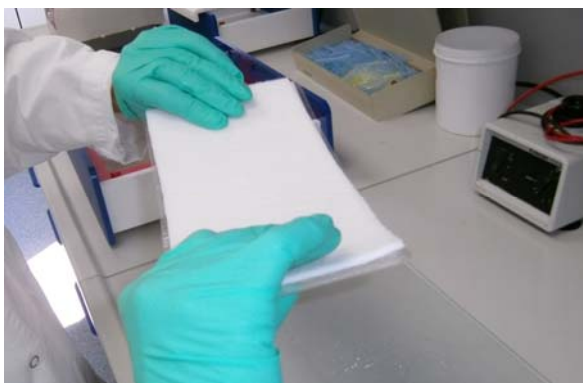

Fig. 16
- Turn the stack – Backing film and gel are now on top of the sandwich (Fig 16).